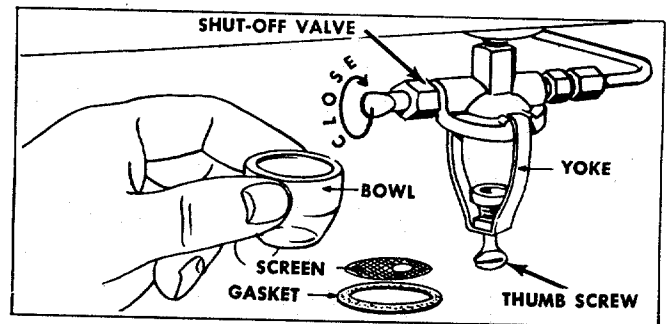

FIGURE 18. GASOLINE FILTER AND SHUT-OFF
With the tiller on level ground, remove the oil filler plug from the engine and fill the crankcase with good quality, SAE 30 type MS engine oil until it overflows. The crankcase holds approximately 2¾ pints of oil. Pour slowly to avoid air locks. Replace the oil filler plug. See figure 18.
Refer to figure 18.
- Step 1. Remove the belt cover as shown in figure 18.